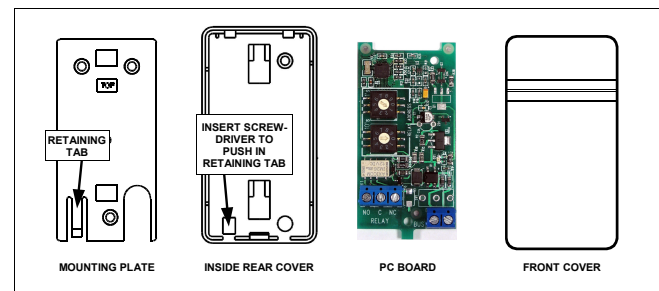

Fig. 1. GEMC-BSLC-RLY Component Parts
3. **Remove point module mounting plate.** Use a small screwdriver to push in retaining tab (Fig. 1) and slide cover upward.